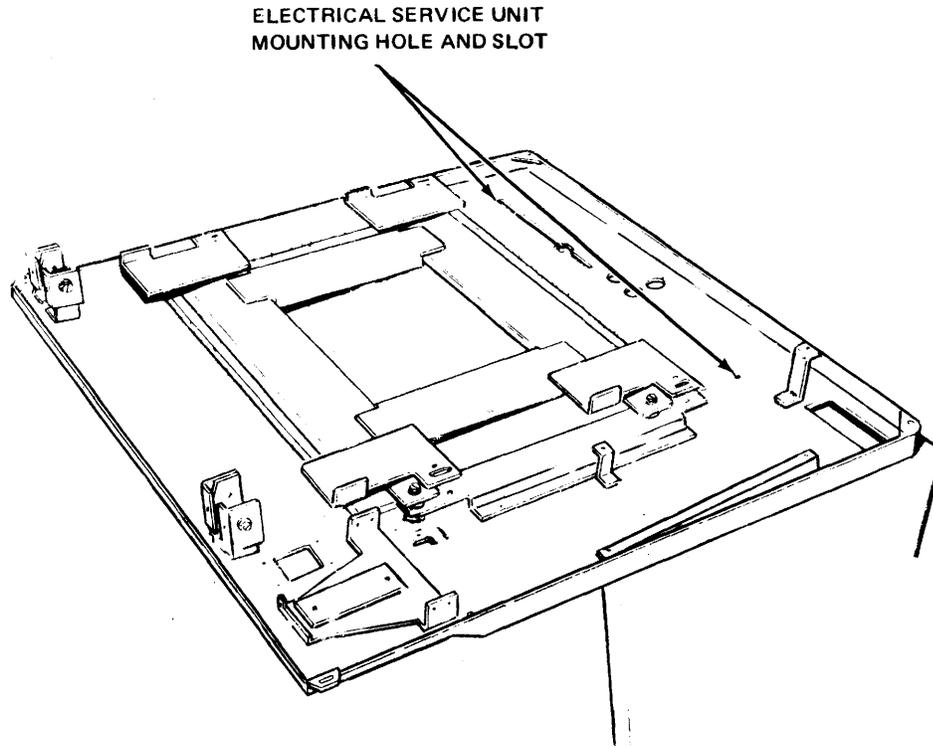

Figure 6-56. Pan Assembly.
- c. Remove two mounting screws from electrical service unit and pan assembly (see figure 6-56).